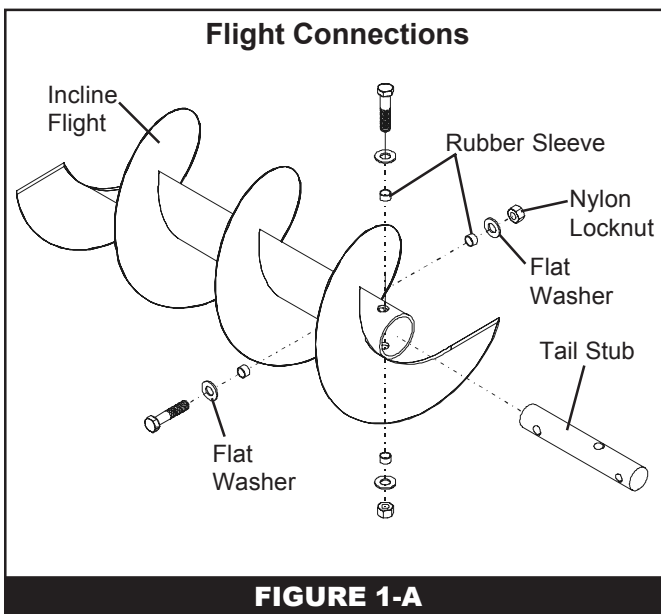

FIGURE 1-A
1. ASSEMBLE HOPPER 8" & 10" AND INCLINE TUBE (See Figure 1-B)
- B. Attach the hopper wheels to the wheel shafts using three (3) 5/8" flat washers and one (1) 3/16" x 1-1/2" cotter pin for each wheel. Note: One (1) to two (2) washers should be used as spacers between the hopper and the wheel. Use one (1) washer between the wheel and the cotter pin.
- C. Use the following hardware to bolt the incline tail stub into the incline flight: (See Figure 1-A)
- Four (4) rubber sleeves
- Two (2) hex head (Grade 5) cap screws: For **8" models**, use 3/8" x 3" long cap screws. For **10" models**, use 7/16" x 3-1/2" long cap screws.
- Four (4) flat washers